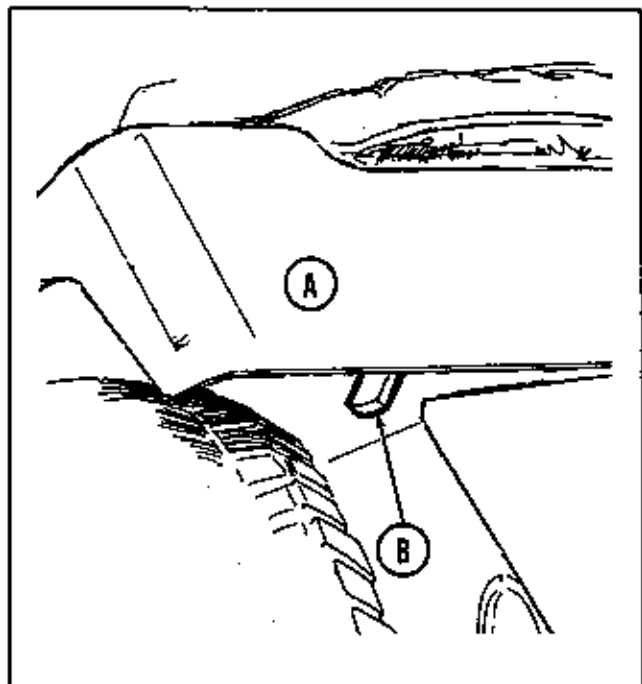
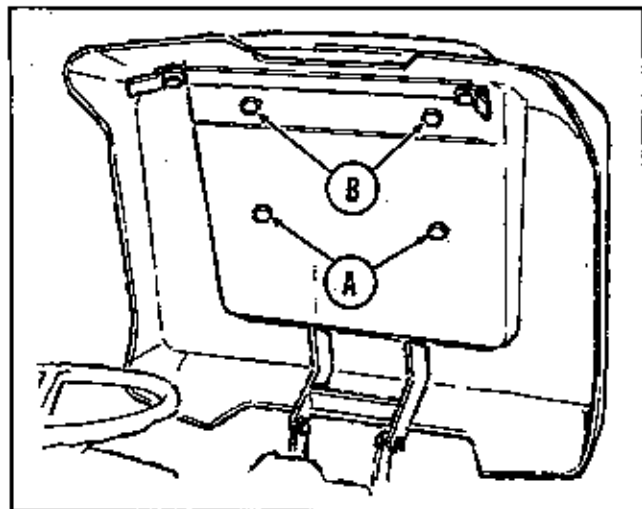
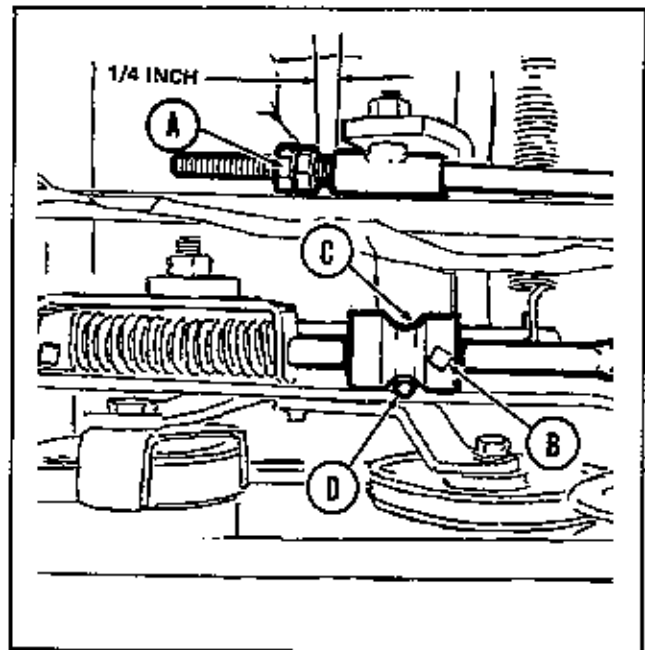
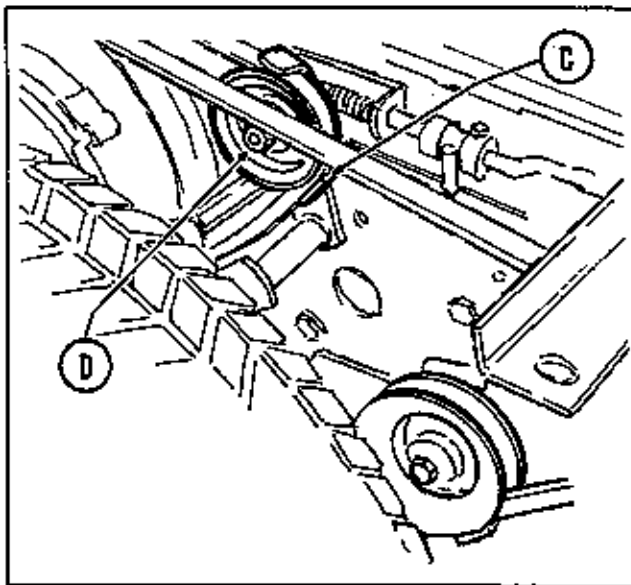

Figure 7. Seat deck release at front of seat deck.
Figure 8. Seat deck raised.
Figure 9. Clutch free travel and shuttle drive adjustment.
Figure 12. Belt stop adjustments located under seat deck.
See figure 7. The tractor seat deck (A) is hinged at the back. To raise the seat deck, reach under it from each side and pull the two locking levers (B) to the outside. As you hold the locks out raise the seat deck as shown in figure 8. Raising the seat deck in this manner will expose many of the transmission adjustment and maintenance areas.
See figure 8. The tractor seat is properly adjusted when the operator can comfortably operate the clutch and brake pedal while sitting back in the seat. The seat can be adjusted forward or back in any of four positions. If adjustment is required, proceed as follows:
1. See figure 8. Position the seat deck as shown by following the instructions under Raising the Seat Deck on page 9.
2. Remove the two cap screws and lock washers at (A).
3. Remove the two nuts and lock washers at (B).
4. If the seat is to be positioned in either of the two forward sets of mounting holes the two rubber spacers are placed over the studs at (B) and used between the seat and seat deck. If the seat is to be positioned in either of the two
See figure 9. The clutch free travel is correct when there is  $1/4''$  between the nuts (A) and the rod guide when the clutch brake pedal is released and pulled rearward as far as it will go. If adjustment is required, proceed as follows:
1. Raise the seat deck as shown in figure 8, by following the instructions under Raising the Seat Deck on page 9.
2. Using two wrenches hold the forward nut at (A) stationary with one wrench while turning the rearward nut counter-clockwise slightly with the other to separate them.
4. Turn the forward nut at (A) as necessary so that the distance between it and the rod guide is  $1/4''$  as shown in figure 9.
5. Using two wrenches hold the forward nut at (A) stationary while turning the rear one clockwise to tighten the two nuts together securely.
6. See figure 12. Check belt stop (A) and adjust it if necessary so it does not rub the drive belt when the clutch brake pedal is released. When the clutch brake pedal is depressed, belt stop (A) should pick up the drive belt to aid in disengaging it. If adjustment is required, loosen nut (B) slightly. Be sure to tighten nut (B) securely after the adjustment is completed.
3. See figure 9. Loosen set screw (B). Slide brake detent (C) forward or back as necessary to center it on brake pin (D). Tighten set screw (B) securely.
10. See figure 12. With the shuttle drive control lever locked in the forward drive position, belt stop (C) should be positioned so there is 1/16" to 1/8" clearance between each leg of it and the clutch belt. If adjustment is necessary, loosen nut (D) slightly. Tighten nut (D) securely after the adjustment is completed.